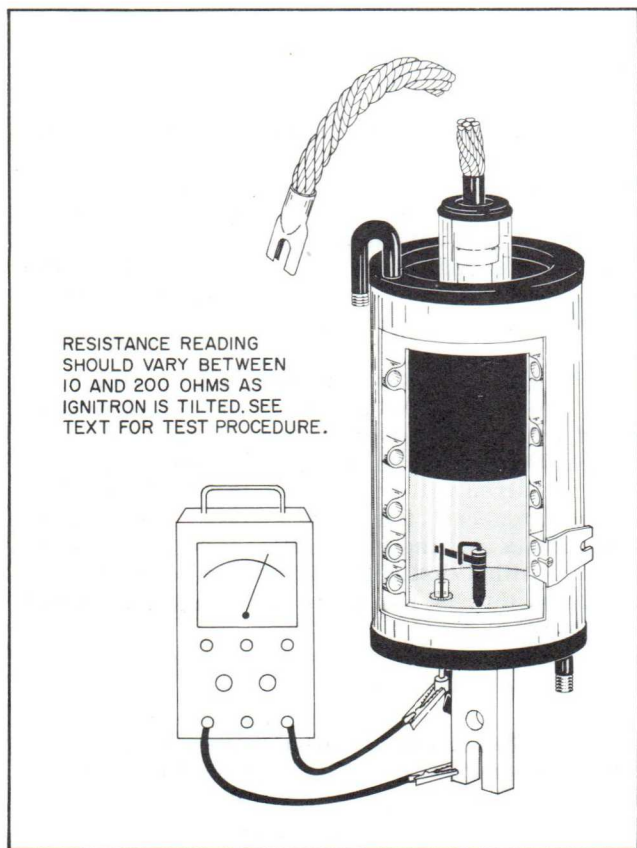

Figure 11. Ignitor Resistance Test
b. IGNITOR TEST. (See figure 11)
(1) Remove tube from equipment.
(2) Connect ohmmeter to ignitor stud and cathode bus. (Ohmmeter R x 1 scale).
(3) Hold tube vertical with cathode bus down. The reading should be 10-200 ohms.
(4) Slowly tilt tube toward ignitor stud about 15°, then tilt about 15° in opposite direction. The resistance should vary smoothly down and up.